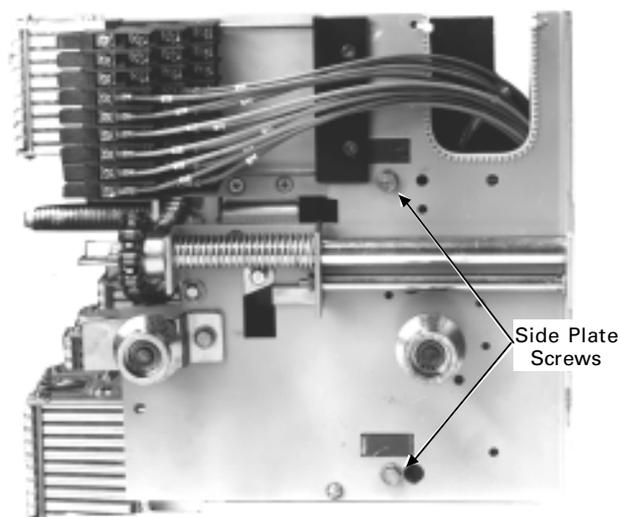

Figure 13. Two screws to be removed from the breaker side plate.
13. Remove the two screws holding the breaker side plate in place, as shown in Figure 13.